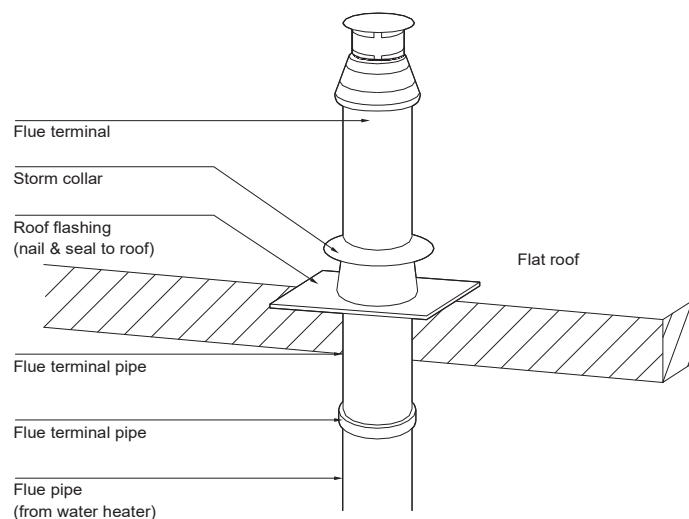

Fig. 13
- c) Cut a minimum 165mm (6.5in) diameter hole for the flue centred in the desired location for the roof terminal, see Fig. 13.